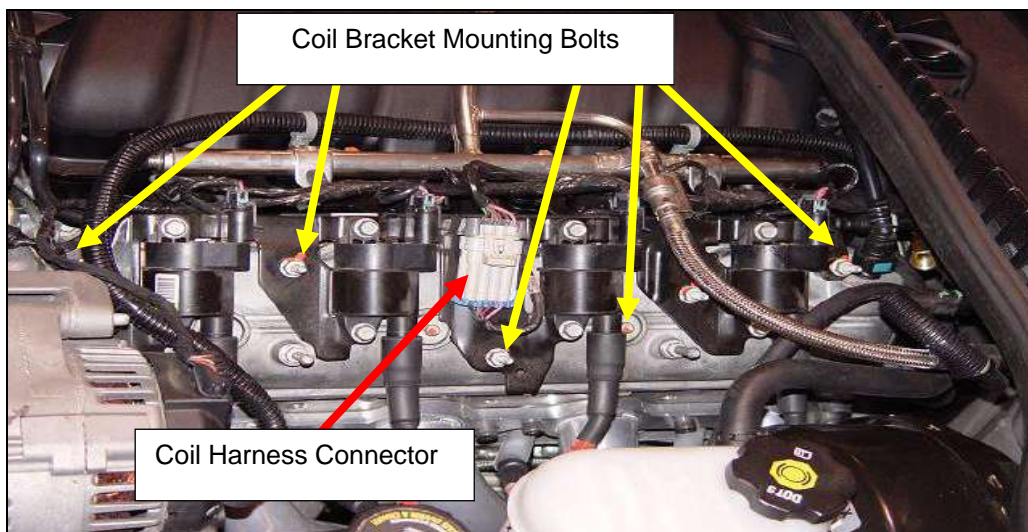

Figure 4
2. Remove the (x5) coil pack mounting bolts from each coil pack mounting bracket on top of the valve cover. Unplug the coil wiring harness connector from the engine harness and remove coil packs and spark plug wires (**Figure 4**).